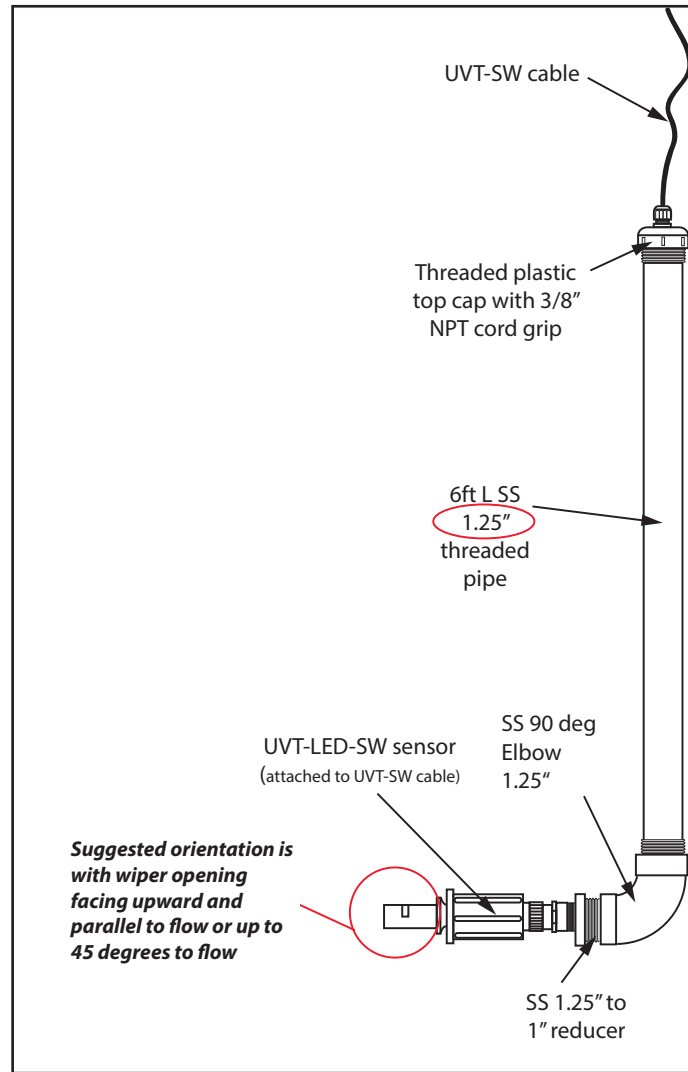

FIG. 18
Make sure it is inserted as shown in FIG 18 so that it is above the opening for the wiper and LED. Shake to remove air bubbles.
2) UVT-SW-004: Retrofit installation kit that attaches to existing installation brackets from other suppliers that require 1 1/4" pipe. See FIG 18 for description of hardware.